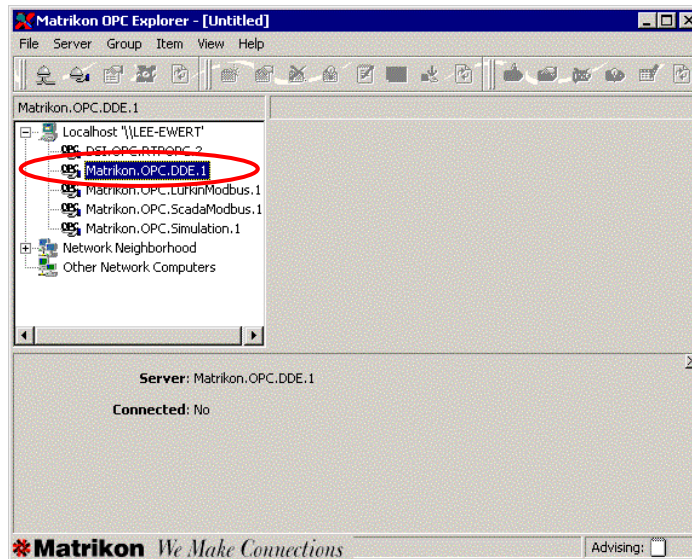

Figure 4-1. The OPC Explorer application window.
OPC Explorer starts (Figure 4-1), showing the file names of the OPC servers successfully installed to your computer on the left side of the window. The DDE server you installed in section 3 should now appear on your list (*Matrikon.OPC.DDE.1*). If it does not, contact *Matrikon* support (www.matrikon.com/support).
1. In *Matrikon OPC Explorer*, right-click the top tag (.FIC101) and select **Write Values** from the shortcut menu that is displayed (Figure 4-1).